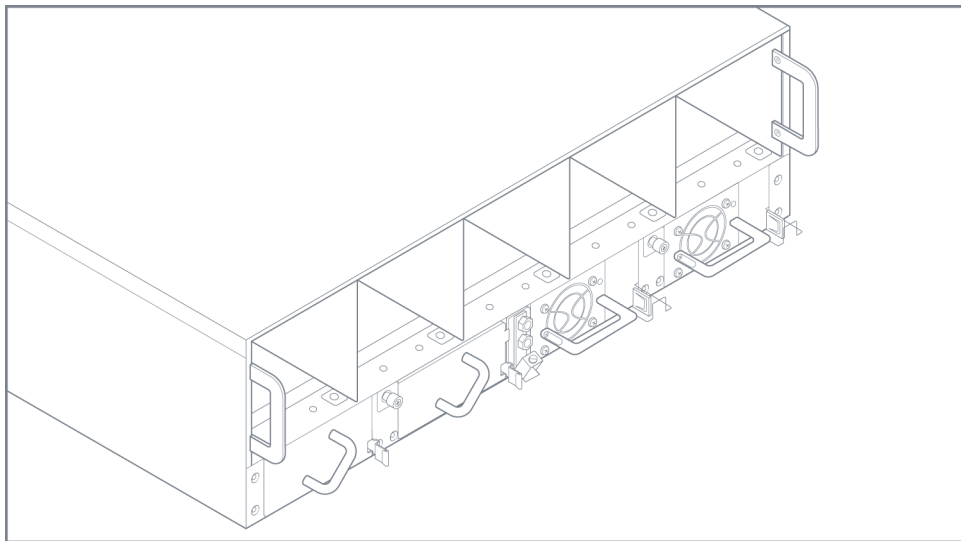

Figure 4-13: Fan Tray Inserted
3. Slide the fan tray in until it is flush with the chassis rear and will not slide in any further as shown in Figure 4-13 on page 80.